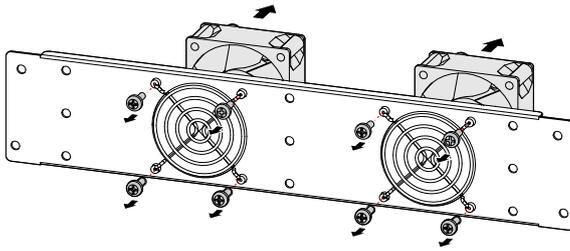

Figure6-3 Dismantle fan
- Step 7 Loosen the screws that fixed the fan and take out fans, as shown in Figure6-3.